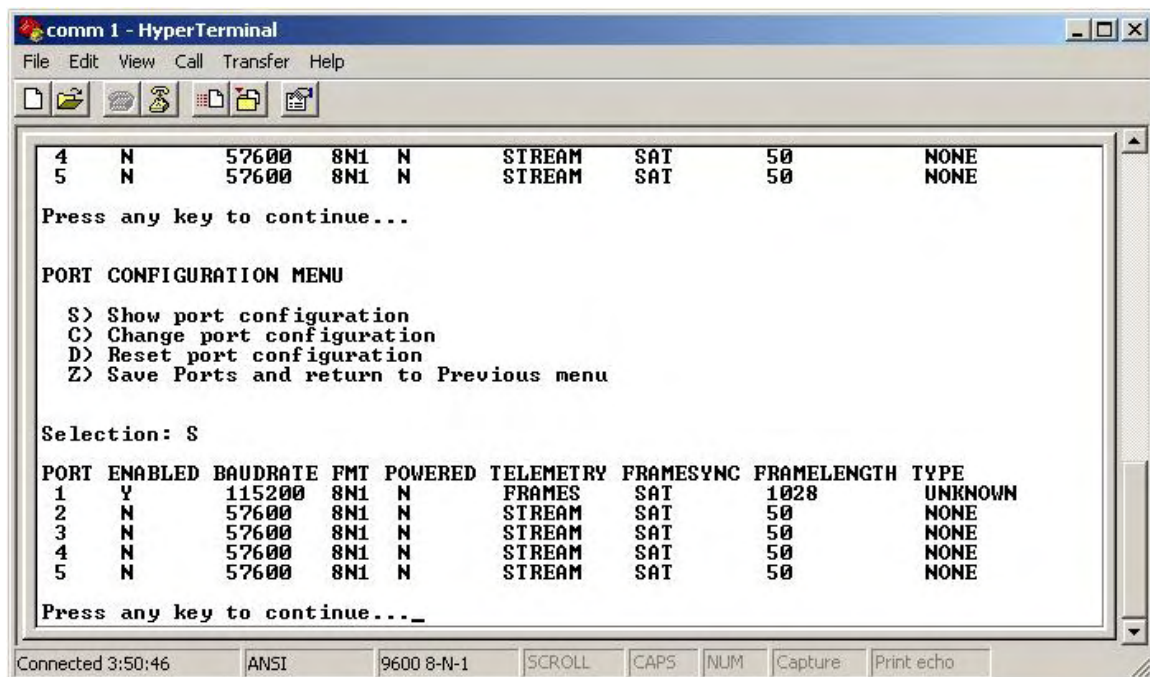

Figure 11 - Displaying Instrument Port Settings
S) Show port configuration - shows current settings for each of the five Instrument Ports in a table as shown in Figure 11. Pressing any key returns to the Instrument Port Configuration Menu. The table columns are described here.